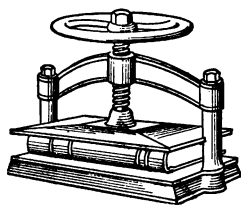

FIG. 38. — Letterpress.
7. In a letterpress (Fig. 38) the threads are 0.25 inches apart and the hand wheel is 14 inches in diameter. If a 15-pound pull is applied to the rim of the wheel, how much force is brought to bear on the book?